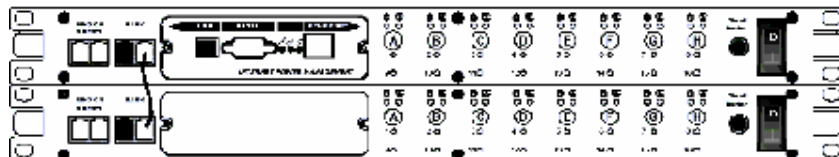

Figure 2 - First and second RPM
6. Make sure that the second RPM has the Terminator plugged into the iLink port (see Figure 2).